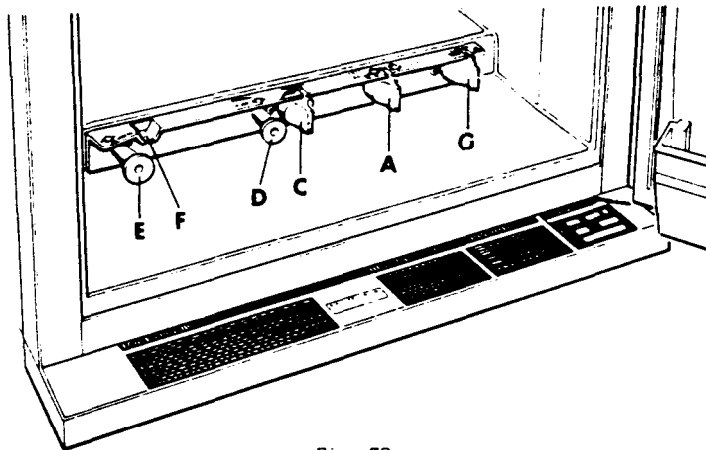

Fig. 72
### 26. GAS OPERATION (Fig. 72)
### 27. ELECTRIC OPERATION (Fig. 72)
The **RM36C**, RM46, RM47, **RM66**, RM67, **RM76** and RM77 models are equipped with a Piero crystal lighting device which creates a spark over the burner when the button E is pushed in fully (see fig. 72).
1. Release the Piezo lighter knob "E" (see fig. 72) inside the cabinet by means of pulling the knob outwards.